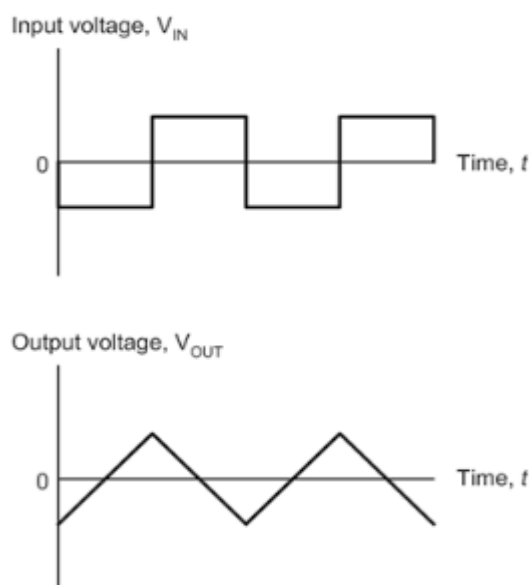

Fig 2.11. Typical input and output waveforms for an integrator.
- Typical input and output waveforms for an integrator are shown in Fig. 2.11. Notice how the square wave input is converted to a wave that has a triangular shape.